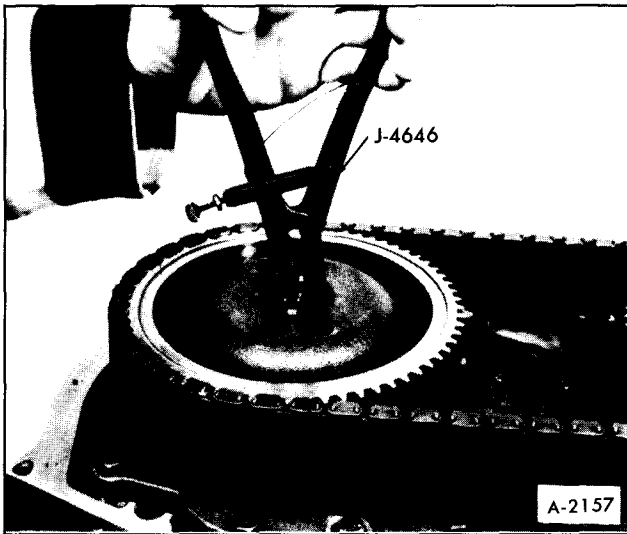

Figure 31—Removing Sprocket to Housing Snap Rings
3. Install Snap Ring Pliers, J-4646, into sprocket bearing retaining snap rings located under the drive and driven sprockets, and remove snap rings from retaining grooves on support housing, Figure 31.